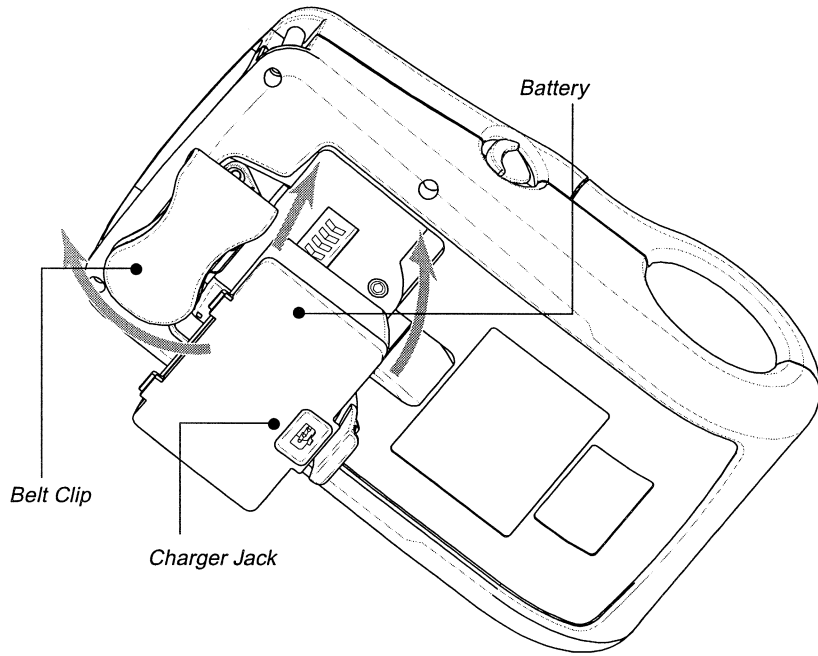

FIGURE 2
2. Insert the battery into the printer as shown in Figure 2,